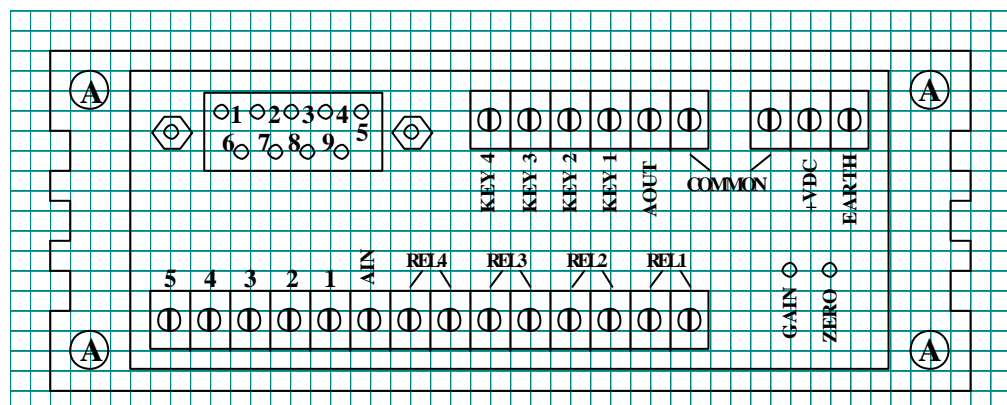

Fig. 5 Rear View of AN401
To open the instrument, simply unscrew the four (A) screws at the corners of the rear panel (see **fig. 5**), then gently slip electronics out of the chassis: please consider that display board and rear panel are vertically mounted on the main board.